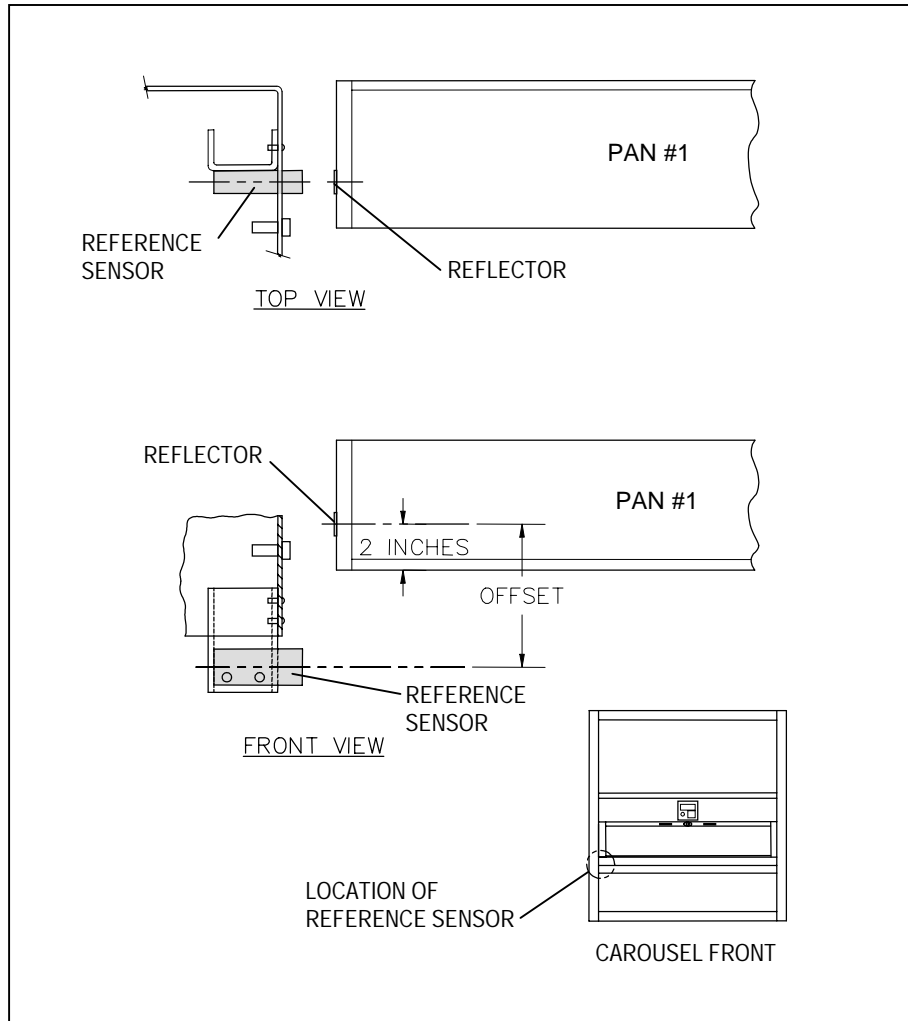

Figure 29. REFERENCE SENSOR INSTALLATION
4. Locate the reference sensor on the left side of the carousel (see Figure 29).